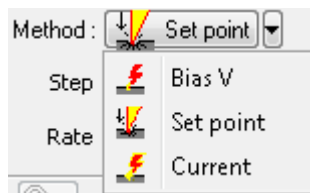

Fig. 12-50. Selecting the lithography method
3. In the drop-down list **Method**, select the desired mode of lithography (Fig. 12-50):